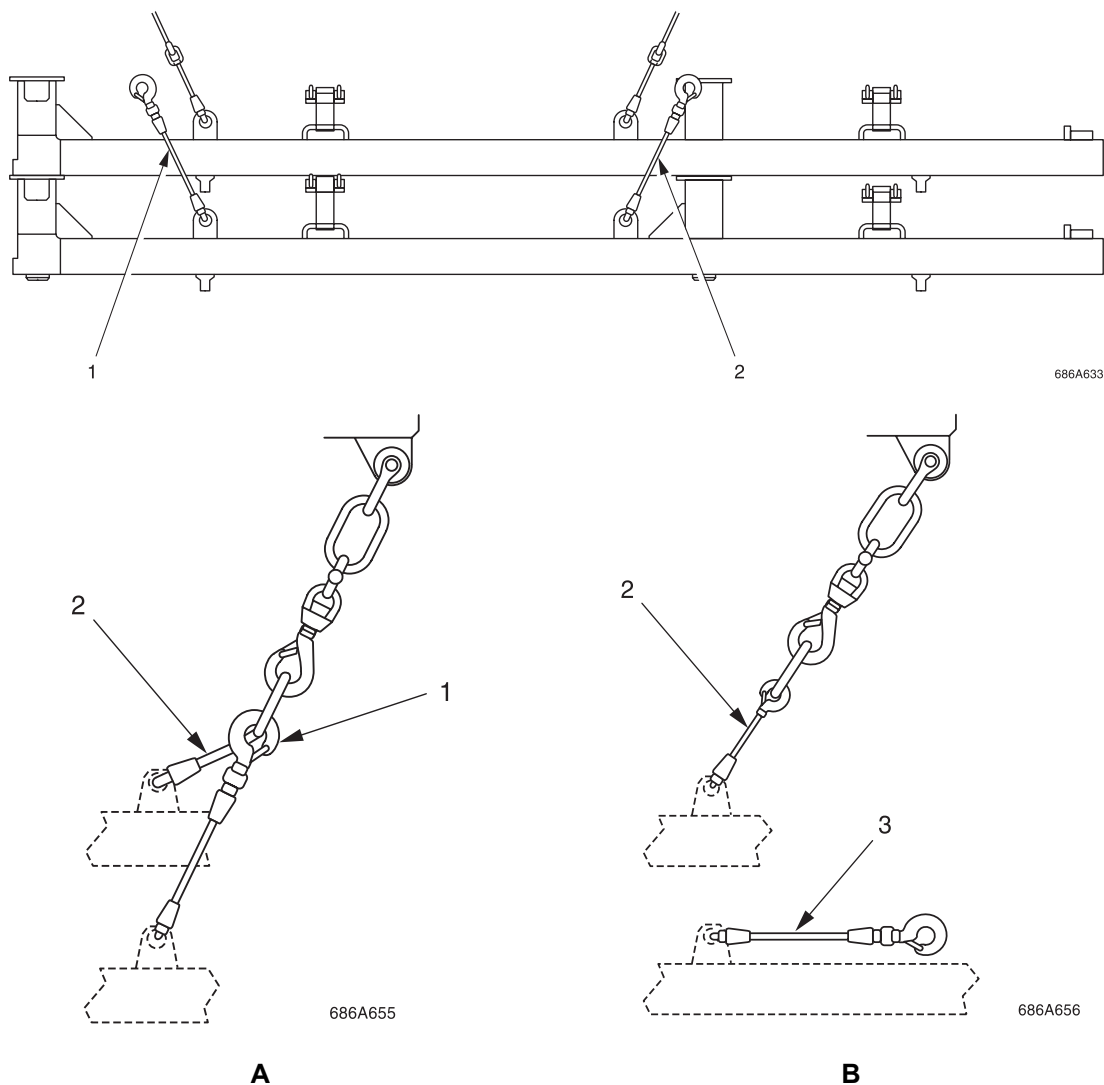

Figure 3. 40 Slings of Approach Ramp Transport Frame
- 3.9.11.3 The two frames are lifted as one initially (Figure 3. 40 (A)). Once one frame is fitted to the required ramp module, either left or right of the centerline, the top frame is lifted from the bottom transport frame (Figure 3. 40 (B)), by disconnecting the lower frame's wire slings (1 & 2) and lifting the top frame into its required position on the other side of the ramp module centerline.